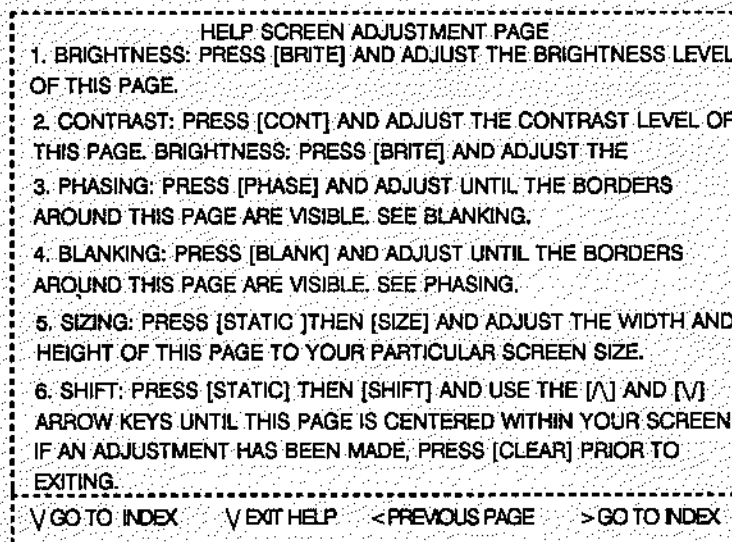

FIGURE 9-6. HELP SCREEN ADJUSTMENT PAGE.
1. **INPUT SELECTION MENU:** This selection will switch you to the following on- screen menu for your selection of a brief description of the different modes of operation. See Figure 9-6.
The help screens are provided in individual channel locations. For this reason it may become necessary to adjust the help screen parameters. Refer to figure 9-6